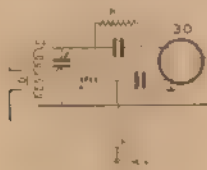

FIG. 1
shown in Fig. 1. The five meter wave cuts through the antenna and induces an electric current in it. This oscillating current induces another into L2 if L1 and L2 are near each other. L2 may be of from one to ten turns, depending upon the diameter of the turns. For example, the set herein described has 2 turns, 2 inches in diameter. The inductance L2 is tuned to resonance by means of C2 in order to make the receiver responsive to the desired wavelength within the five meter band. The reactance of L2 and C2 are opposite in phase, or cancel each other, leaving only the resistance in the tuned circuit at resonance to limit the value of induced current. Thus a relatively large value of induced current flows through the inductance and around through the tuning condenser C2 and its shunt capacities, due to the wiring and tube. The voltage across either the inductance or capacity depends upon the reactance of the other element, consequently the actual voltage across the input to the detector tube is increased enormously by resonance. This tube is a voltage operated device, the greater the signal voltage, the greater the audio signal across the telephone receivers.
The circuit shown in Fig. 1 is a good oscillator, but proper proportions of R1, C1, C3 and the plate supply voltage allow the super-regenerative effect to take place. R1 and C1 cause a blocking action which throws the detector in and out of oscillation at a high rate of frequency. R1 can be returned to filament or to +B as shown, depending upon its value, but for less overloading and distortion effect on strong five meter signals the connection shown is highly desirable. C3 must be large enough to by-pass the high super-regenerative surges back to filament, but not large enough to short-circuit the audio frequencies in a modulated signal which must be impressed across the telephone receivers or audio amplifier. Common values for R1 are from 1/4 to 2 megohms, C1 of .00025 mfd. and .006 mfd. for C3.
**F**OR the newcomer in the five meter band, the set shown in Fig. 1 is about as simple as one can possibly build, consistent with worthwhile results. It puts out a well-modulated, strong signal as a transmitter and func-